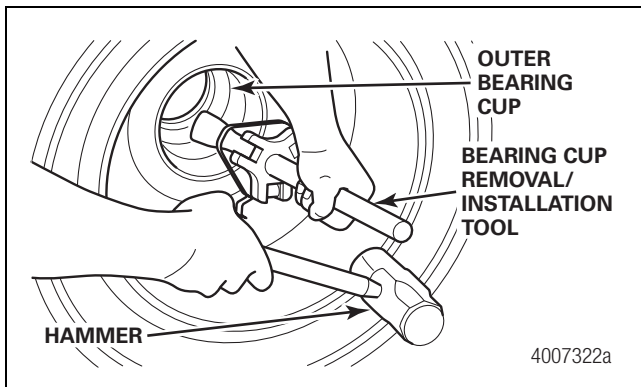

Figure 14
- **If the outer bearing cup is bruised or damaged:** Remove the bearing cup and replace it with a new cup. Install the bearing cup removal/installation tool, OTC part number 7180, through the drum onto the outer bearing cup. Strike the tool with a hammer and drive the outer bearing cup out of the hub assembly. Figure 14.